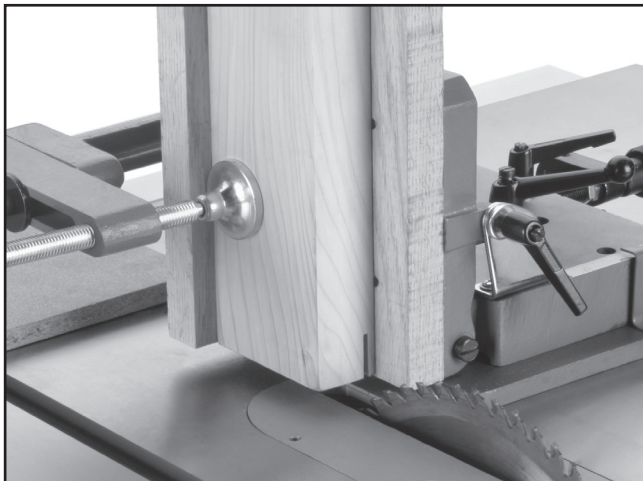

Figure 22. First structural cheek cut.
3. Grasp the jig firmly and slowly slide the jig toward the saw blade and make the first structural-cheek cut (see **Figure 22**). DO NOT slide the jig quickly toward the saw blade or the jig can raise up and away from the table.